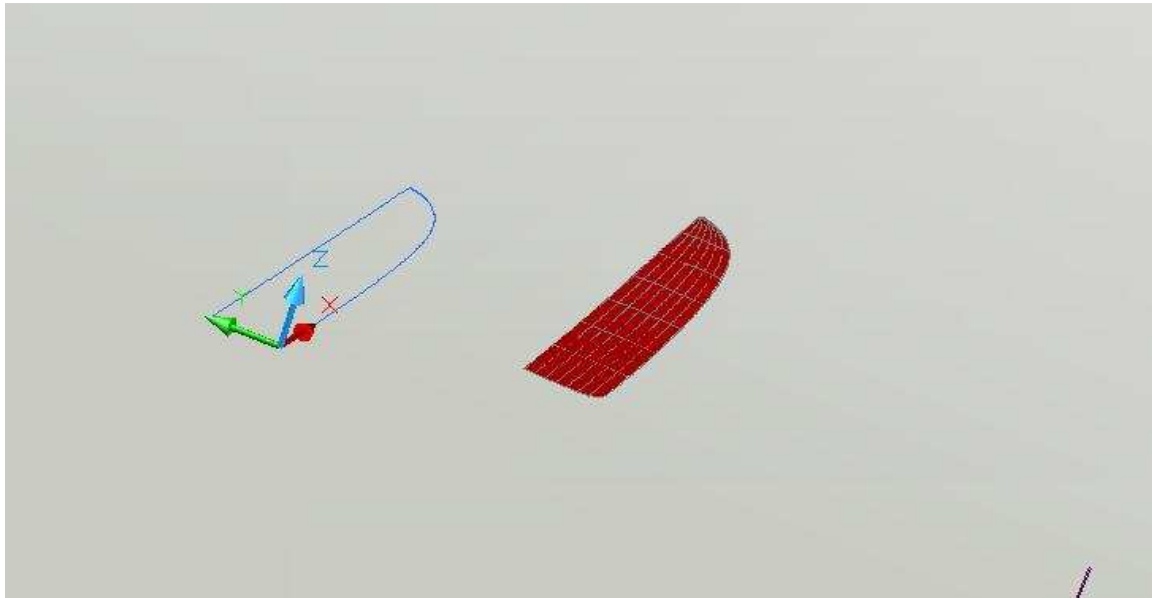

Fig. 1.
- Sample 1: The surface in fig. 1 is a deck surface.